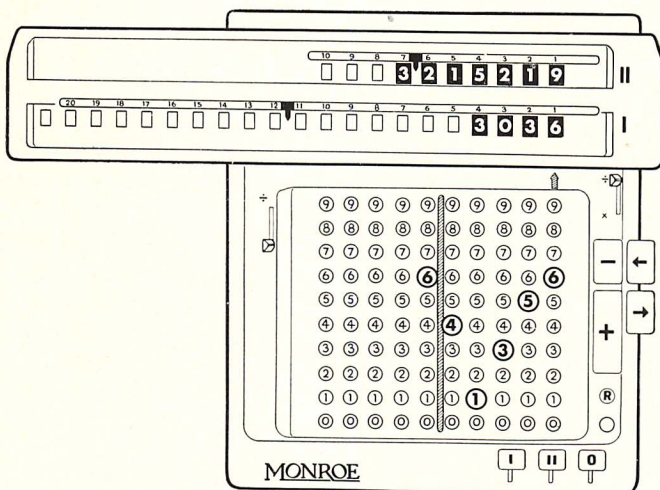

Figure 14
*Step 5*—Push automatic divide lever. The final result will appear as in Figure 14.
The example of Figure 14 illustrates the advantage of setting the upper dials decimal marker at one place more than the number of places required for the quotient. In the first upper dial or in the sixth decimal place is a 9. Therefore, the quotient should be read as 3.21522 and not 3.21521, which would have been the incomplete quotient if the upper dials decimal had been set at five places instead of at six.